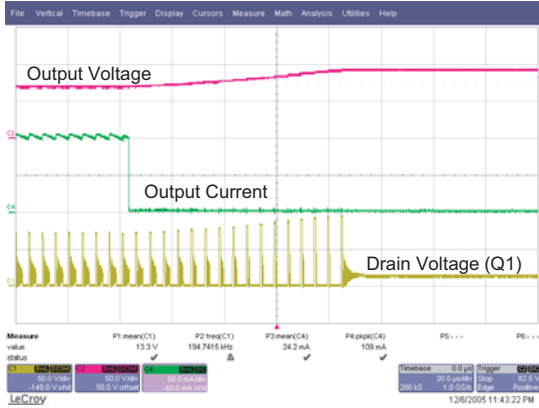

Fig. 5: Open LED Protection (20µ/div)
3. Open LED Protection: Open LED protection for the circuit is set at 92V. The waveforms in Fig. 5 shows the output voltage, drain voltage and output current during an open LED condition. The time taken for the over voltage protection to shut the IC down will depend on the size of the output capacitor.